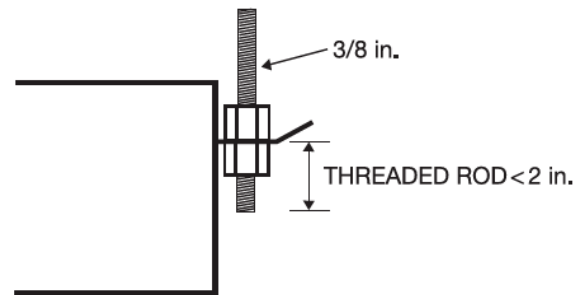

Fig. 6 — Threaded Rod
3. Secure the unit in position with locknuts and washers on both sides of the unit bracket. Ensure that the threaded rod does not protrude more than 2 in. below the mounting brackets as shown in Fig. 6.